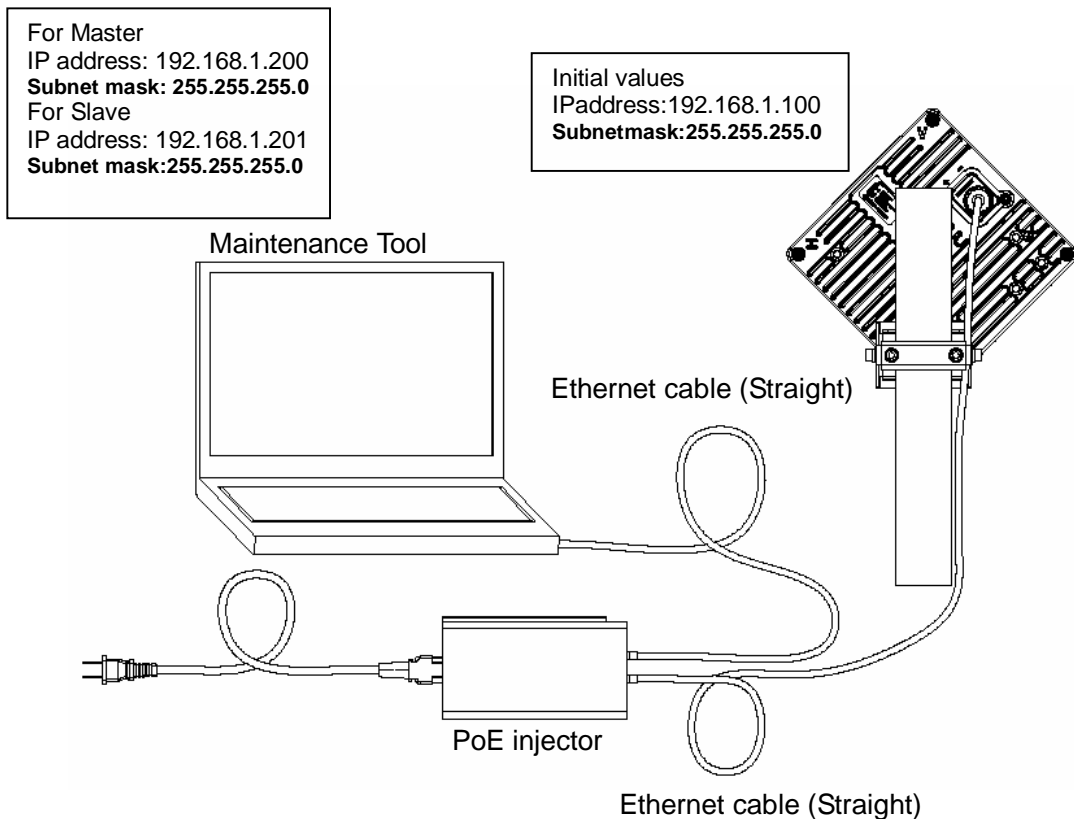

Figure 5-32 Connecting the Maintenance Tool
(1) As shown in Figure 5-32, connect the Management Tool (PC) to the WT. ( login class: admin or installation )